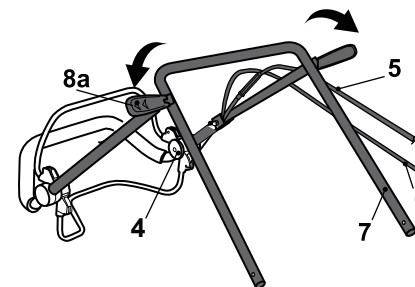

Fig. 1
1. Remove the mounting sets (19) from the handle support (20) and keep them handy.
2. Ensure that the levers (8a) are released and unfold the upper (4) and lower handle bar (7) (Fig. 1).